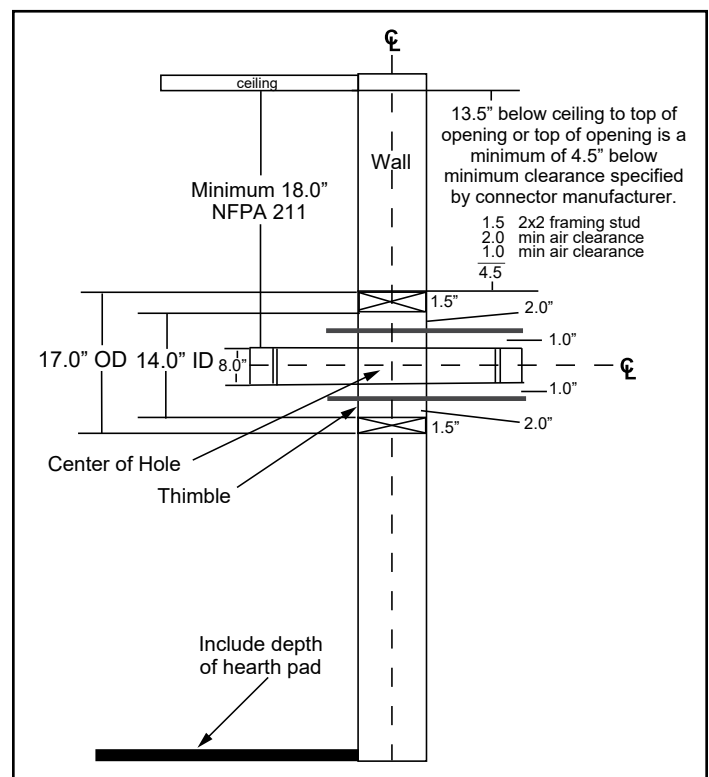

Figure 14.2
- Top of wall opening is a minimum of 13-1/2 inches (343mm) from ceiling or 4-1/2 inches (114mm) below minimum clearance specified by chimney connector manufacturer. **NFPA 211** minimum vertical clearance of 18 inches (457mm) from chimney connector and ceiling or minimum recommended by chimney connector manufacturer (**Figure 14.2**).
1. Open inside wall at proper height for the chimney connector to entry the masonry chimney (**Figure 14.2**).
3. Construct a 17 inch x 17 inch (432mm x 432mm) outside dimension frame from 2 x 2 framing lumber to fit into wall opening. Inside opening of frame should be no less than 14 inch x 14 inch (356mm x 356mm) (**Figure 14.2**).